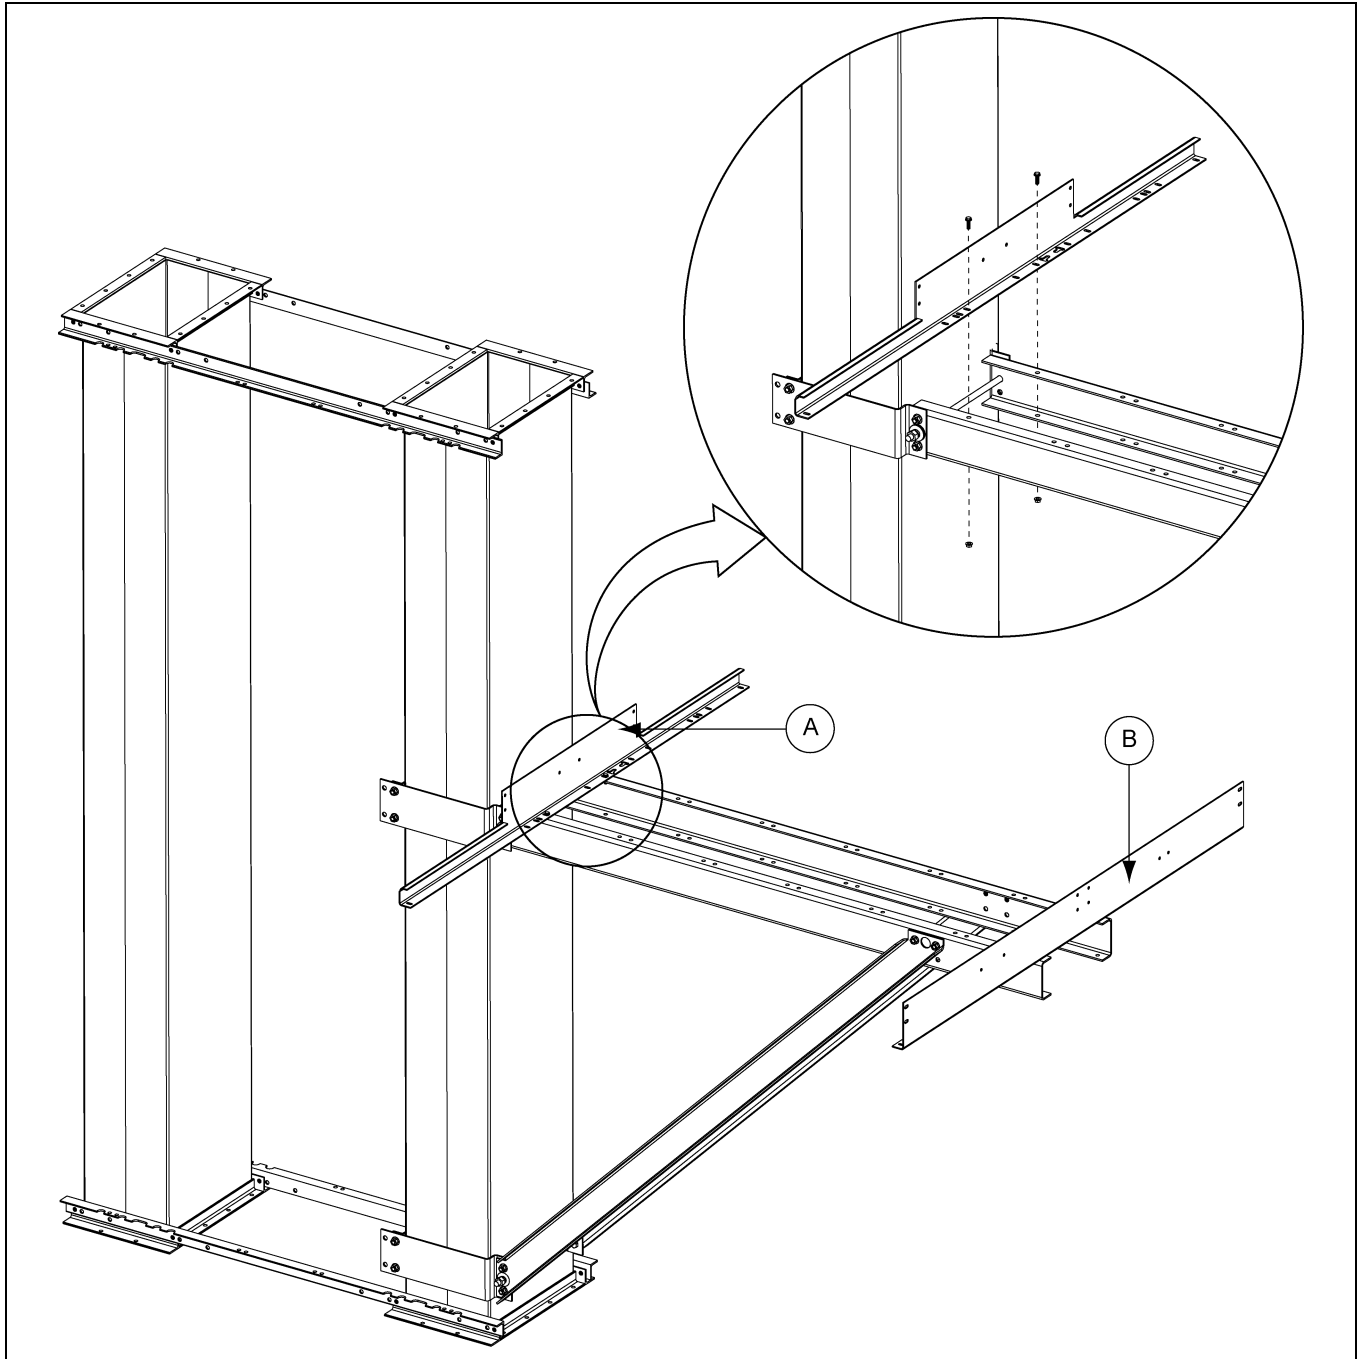

Figure 13C
With support assembly attached to trunk and hardware tightened, proceed by attaching the notched toe board angle (DSP36002X) (A) and toe board angle (DSP36003X) (B) to the top of the support channel using the 5/16" hardware provided. (Leave hardware loose.) (See Figure 13C.)